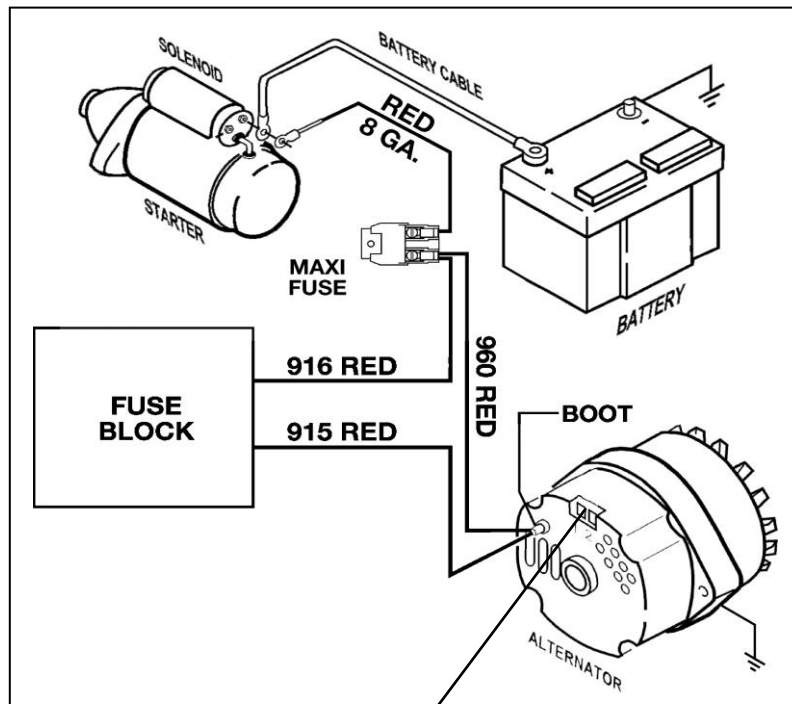

Figure 7-2B High Output Wire
- 7.2.4** Connect ENGINE SECTION wire #915 (red) to the Alternator Output lug (Bat). Insulate and stow ENGINE SECTION wire #914 (wht). Do not install jumper wire. No wires are connected to Alternator terminals 1 & 2. If alternator output is greater than 65 amps refer to Figure 7-2B and the caution on page 6.
CAUTION: IF USING AN ALTERNATOR WITH AN OUTPUT LARGER THAN 65 AMPS, YOU WILL ALSO NEED TO USE THE RED 10 GAUGE WIRE #960 AND THE RED 8 GAUGE WIRE INCLUDED IN THE BOX. THE WIRE END WITH THE RING TERMINAL AND RUBBER BOOT WILL CONNECT TO THE ALTERNATOR OUTPUT LUG WITH #915. ROUTE THE OTHER END TO THE MAXI FUSE TERMINAL WITH WIRE #916. CUT THE WIRE AND CRIMP ON A RING TERMINAL. NOW INSTALL A RING TERMINAL ON THE REMAINING RED 8 GAUGE WIRE AND ATTACH IT TO THE STARTER SIDE TERMINAL OF THE MAXI FUSE. CUT THE 8 GAUGE RED WIRE TO LENGTH, CRIMP ON A RING TERMINAL AND ATTACH IT TO THE MAIN SOLENOID LUG WITH THE POSITIVE BATTERY CABLE. SEE FIGURE 7-2B.